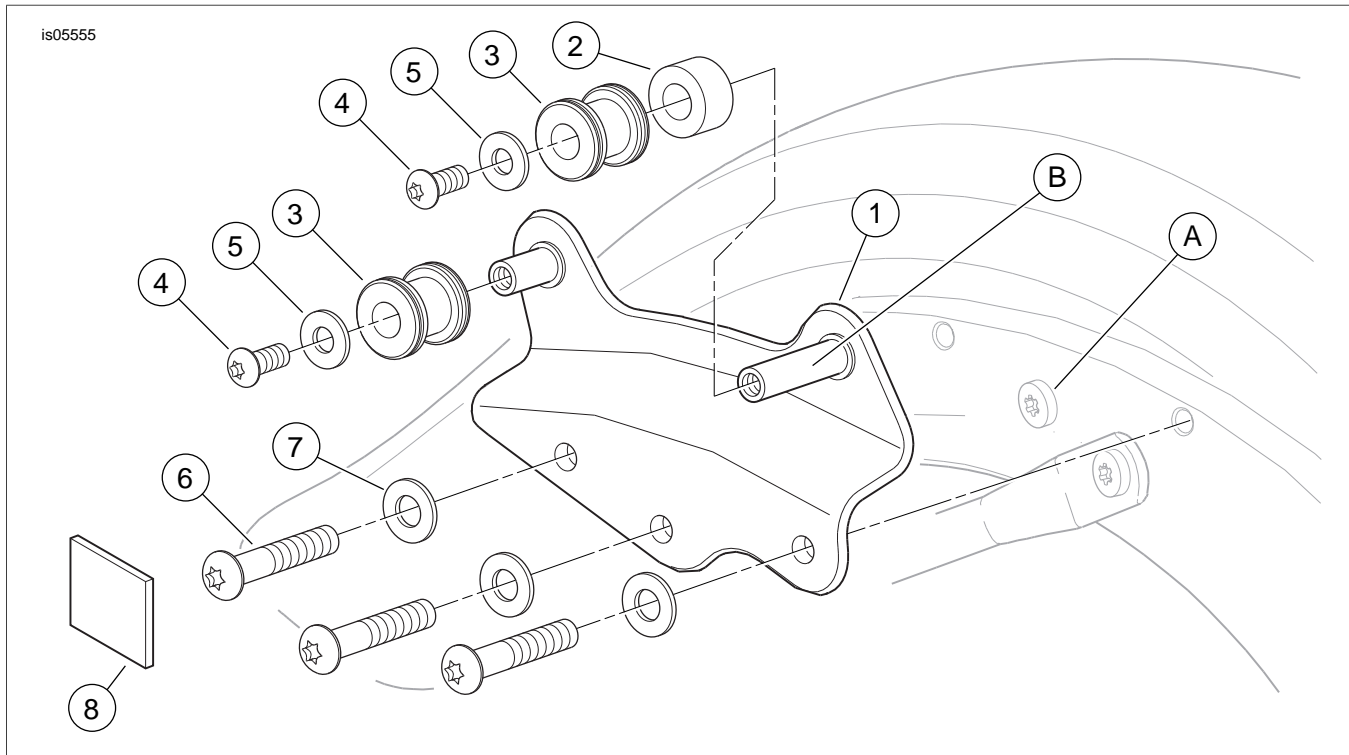

Figure 3. Service Parts, Four-Point Detachable Docking Hardware Kit
See Figure 3 and Table 1.
1. See Figure 3. Remove the screw (A) retaining the rear of the chrome cover to the rear frame extension on each side of the vehicle.
2. Place a washer (7) over the threads of each of the larger TORX® head screws (6) from the kit. Apply 2 or 3 drops of Loctite 262 Threadlocker and Sealant - Red to the threads of each screw.
3. See Figure 3. Slide a spacer (2) onto the longer pin (B) of each docking plate. Install the four docking points (3), chamfer end first, onto the long and short docking plate pins using the washers (5) and smaller TORX screws (4). Tighten to 10.5 ft-lbs (14.2 Nm).